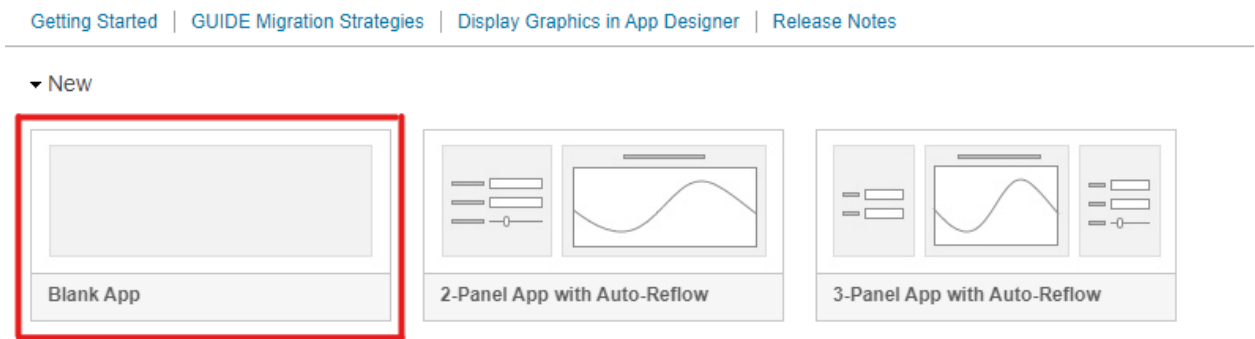

Figure 5: Blank App in the Selection Screen
2. Select the **Blank App** from the following Selection as highlighted in Figure 5